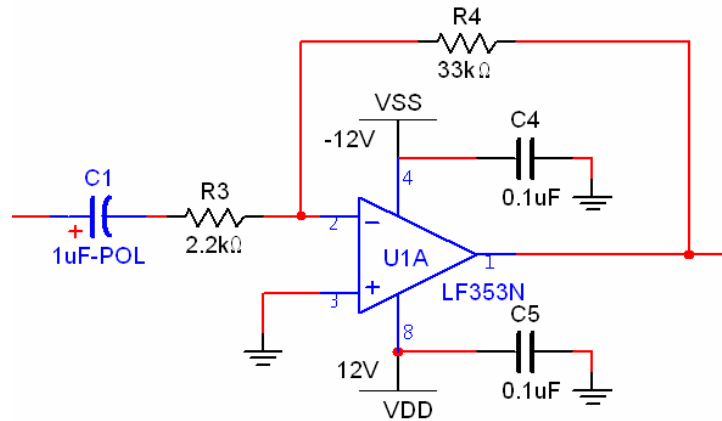

Figure 1-5 – Microphone gain stage
- Add the components for the first stage of amplification as in Figure 1-5. Note we are AC-coupling the microphone to the amplifier, and this sets a low-frequency cutoff (calculate it!). Leave out C2 for now (the capacitor in the feedback path). We will talk about this later. You should have built the following circuit, minus the microphone cartridge: